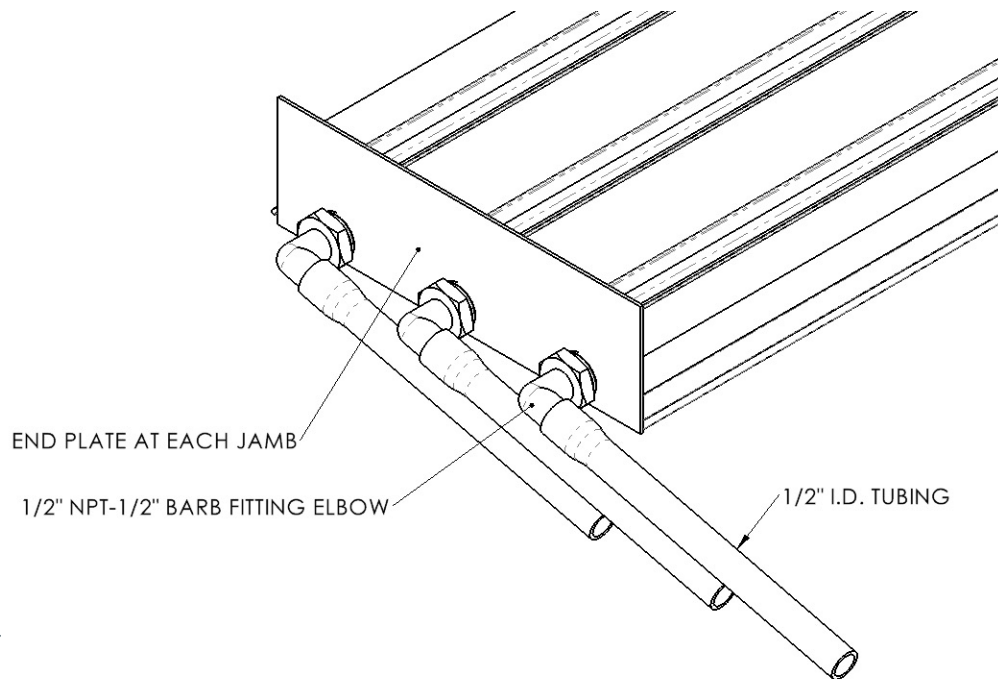

Figure 5
- Side Drain Fitting Sill (See Figure 5).
Screw the 1/2" NPT pipe to 1/2" hose barb fittings (supplied by others) using tread sealant or Teflon tape to the ends of each track. Push fully the 1/2" minimum inside diameter hoses onto the barbed fittings and route to an appropriate drainage location, ensuring that the hoses have a continuous downward slope of at least 1/4" per foot. (See Figure 5). Skip to step 10.